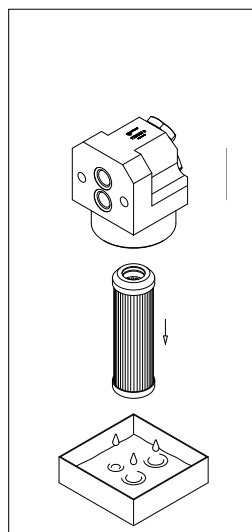

fig. 3
- (Fig. 3) Pull the filter element out